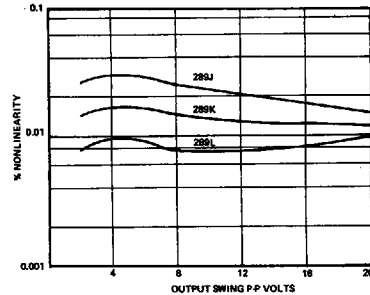
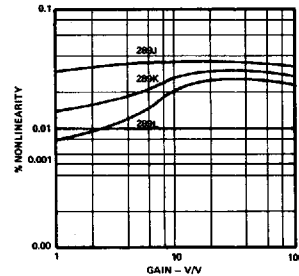

Figure 9. Typical Gain Nonlinearity vs. Output Swing
Figure 10. Typical Gain Nonlinearity vs. Gain
**Gain Nonlinearity:** Linearity error is defined as the deviation of the output voltage from the best straight line and is specified as a % peak-to-peak output voltage span; e.g., nonlinearity of model 289J operating at an output span of 10V pk-pk (±5V) is ±0.05% or ±5mV. Figure 9 illustrates gain nonlinearity for any output span to 20V pk-pk (±10V). Figure 10 shows the effect of gain vs. gain nonlinearity.